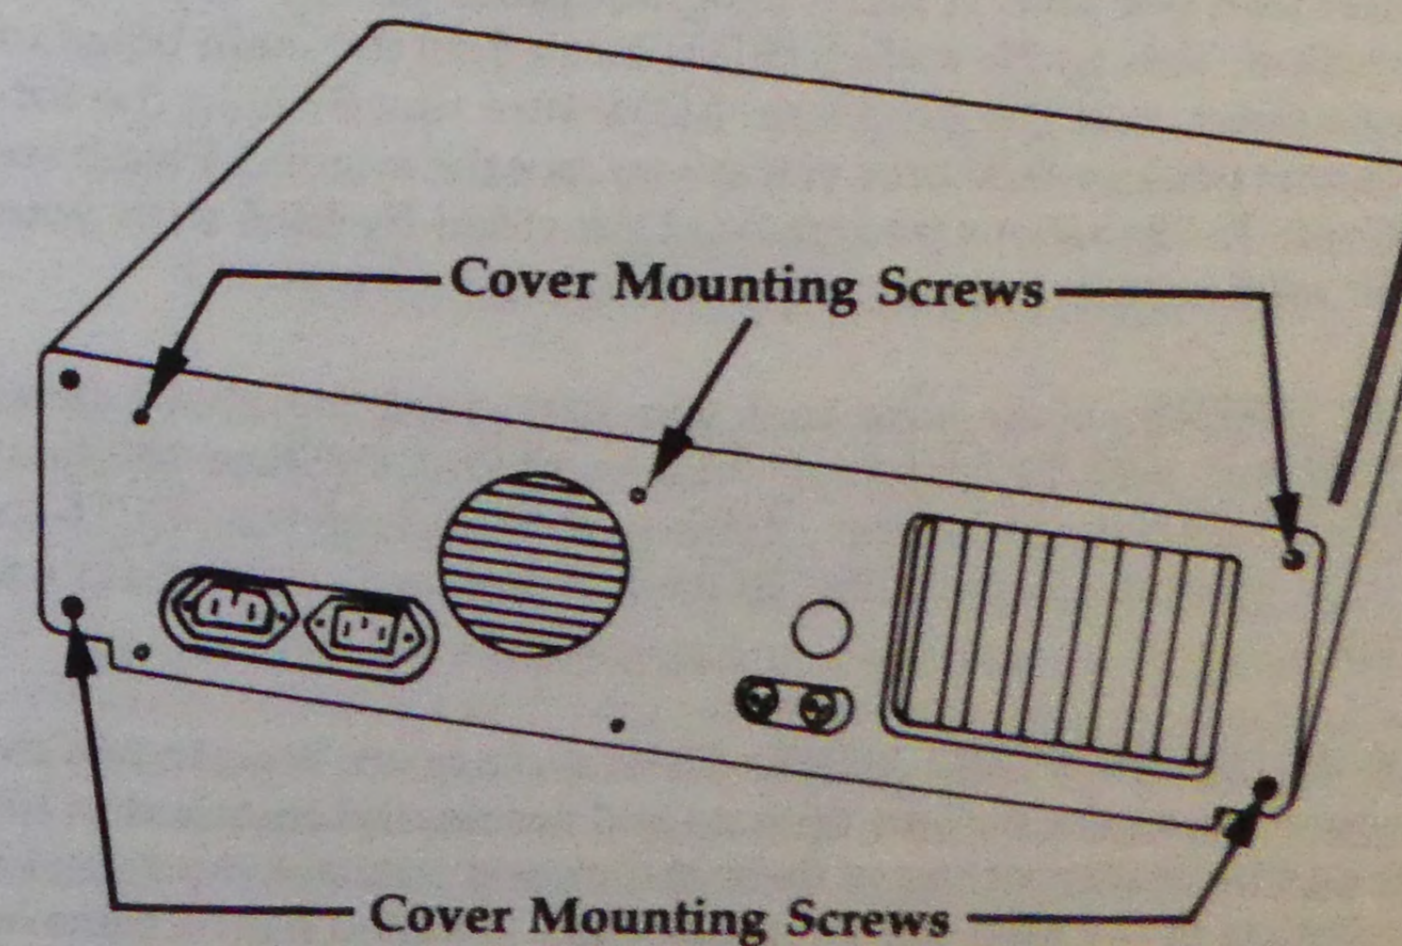

Figure 3.1
Step 1: Figure 3.1 illustrates the location of the cover mounting screws on an IBM PC computer. Older units have only 2 cover mounting screws, newer PC's, XT's and AT units have 5. All cover mounting screws are located on the back of the computer. Remove these screws.